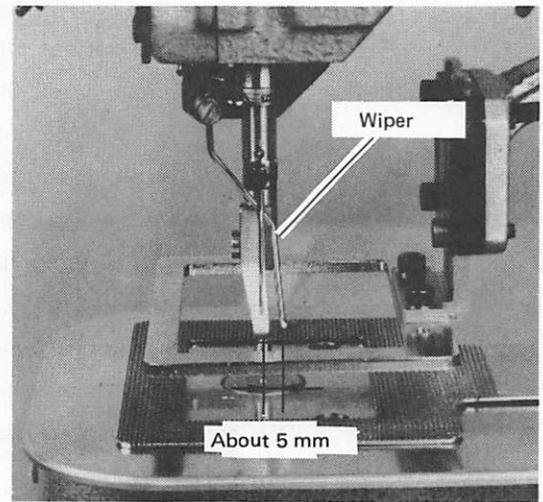

Fig. 10.20
- Locate and fix the driven crank so that the wiper point is found at position shown in Fig. 10.20 when the wiper is returned to the start position.
- For adjustment of height of the wiper, refer to para. 9.10 (2).